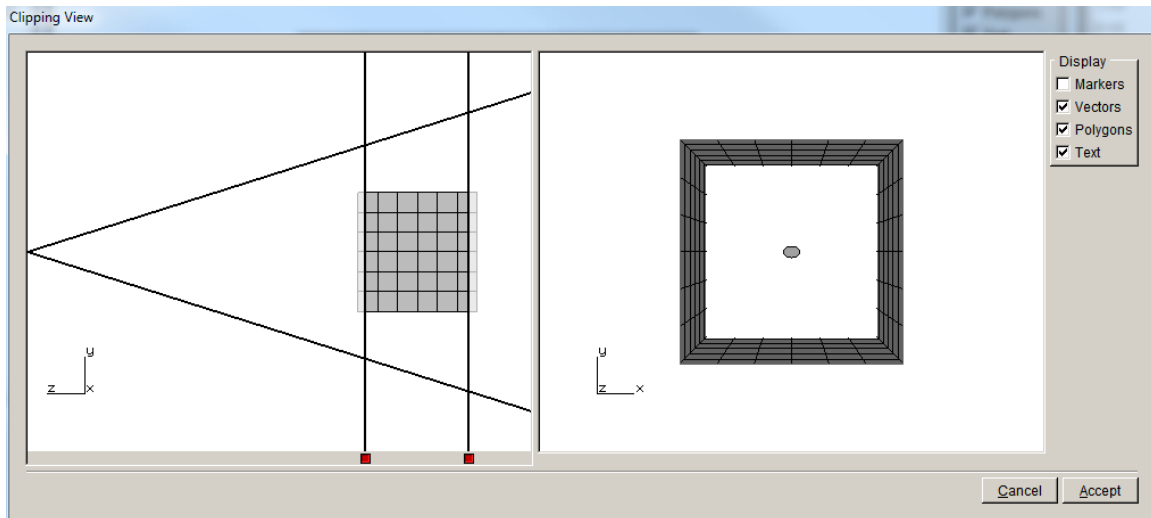

Figure 2.1.9 Clipping view dialog.
**Clipping:** This icon displays the **Clipping View** dialog, Fig 2.1.9. The front and back clipping planes can be moved by dragging the red boxes left or right. This is an alternative to the mouse-keyboard combinations described previously.